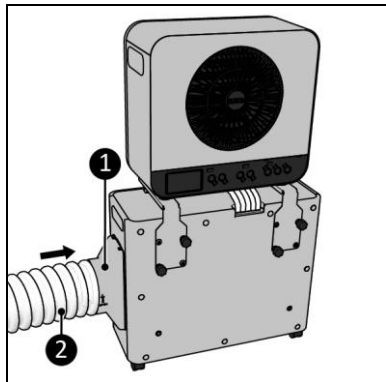

Figure 15
9. Connect the adapter (Figure 15, pos. 1) to the side of the outdoor unit (Figure 15, pos. 1).
10. Stretch the heat exhaust hose (Figure 15, pos. 2) slightly at one end and screw it (anticlockwise) onto the adapter.
3. The adapter (Figure 15, pos. 1) and the heat exhaust hose (Figure 15, pos. 2) need to be connected to the side of the outdoor unit.